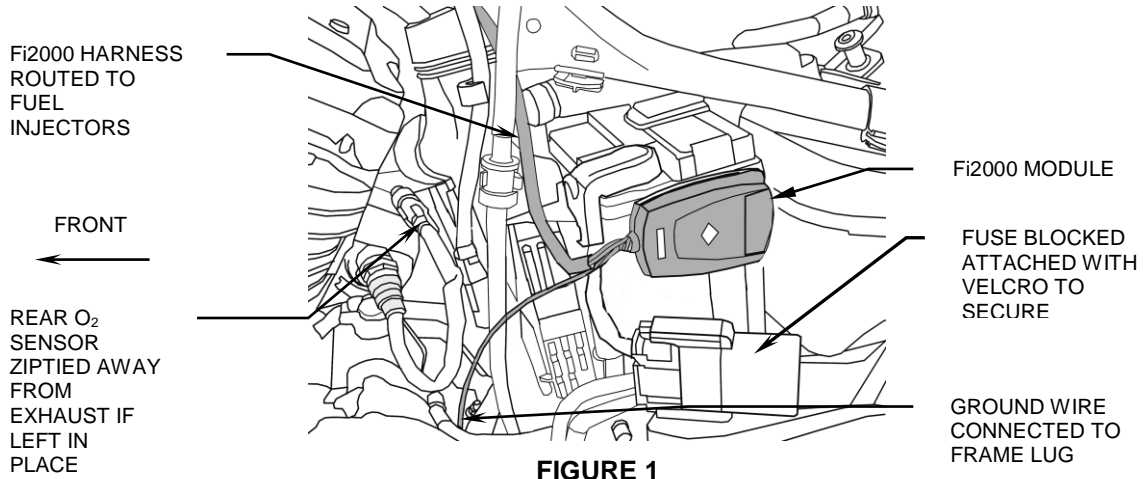

FIGURE 1
3. Disconnect the main fuse block located on the battery hold down strap and then Velcro the Fi2000 module to the battery hold down strap so that the module housing is no higher than the top of the battery. Now use the extra Velcro pad to reattach the main fuse block, see Figure 1.
7. Attach the ground wire to the ground lug on the backside of the primary chain case area. See Figure 1.
8. Before re-installing the seat and left side cover, verify your connections. Remove the door from the Fi2000 box to expose the LED's. Verify the wire connections by (1) turning the ignition on, prior to starting, and see if all three LED's are on steady. If you have no light, your ground connection (BLACK wire) has not made proper contact or your front injector connection is not complete. (2) After achieving a steady light from all three LED's, start the motorcycle, wait 15 seconds and let it idle, the green light should now be the only LED on. If all three LED's are still on after start up, verify you have attached the injector connectors correctly. Reattach the door when finished. **Note:** Make sure the ignition is turned off before changing any connection.